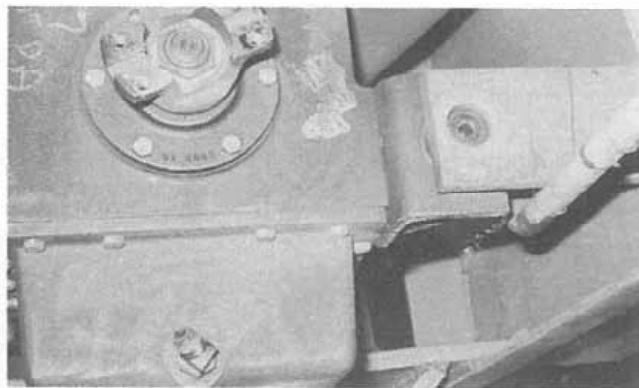

Figure 7:
10. Remove the oil suction hose at the front of the transfer case oil reservoir (Fig. 7), and remove the through-bolts from the lower rubber mount assemblies.